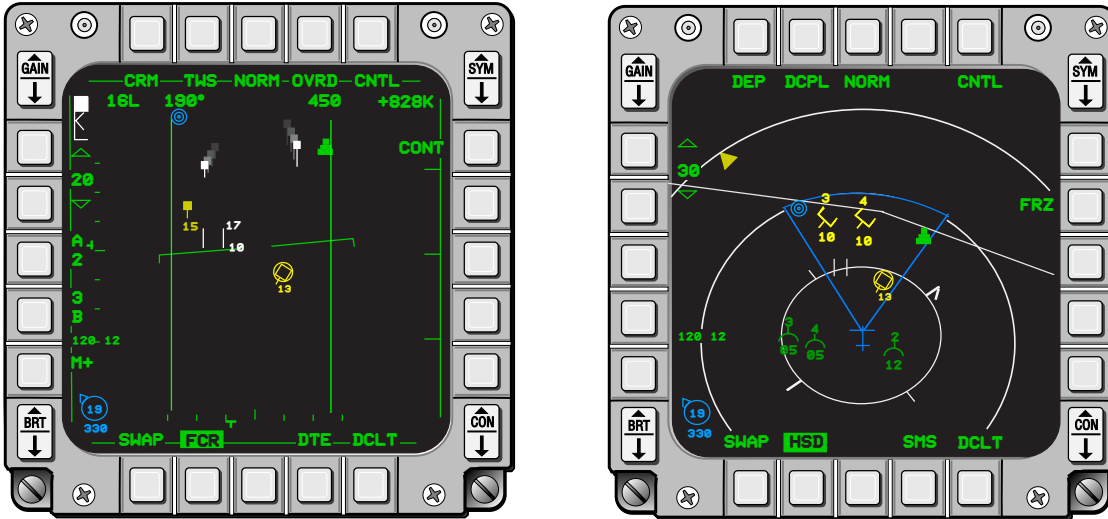

Figure 1-70 CONT Mode
**Continuous (CONT) Mode.** CONT mode (Figure 1-70) provides continuous rounds of information from the time the pilot initiates a COMM outboard until CONT is deselected. After the initial CONT transmission is started, remaining member's IDMs will automatically respond sequentially by their team member order. After a complete round of transmissions has occurred the initiating aircraft will automatically re-send the transmit request and the cycle restarts anew.